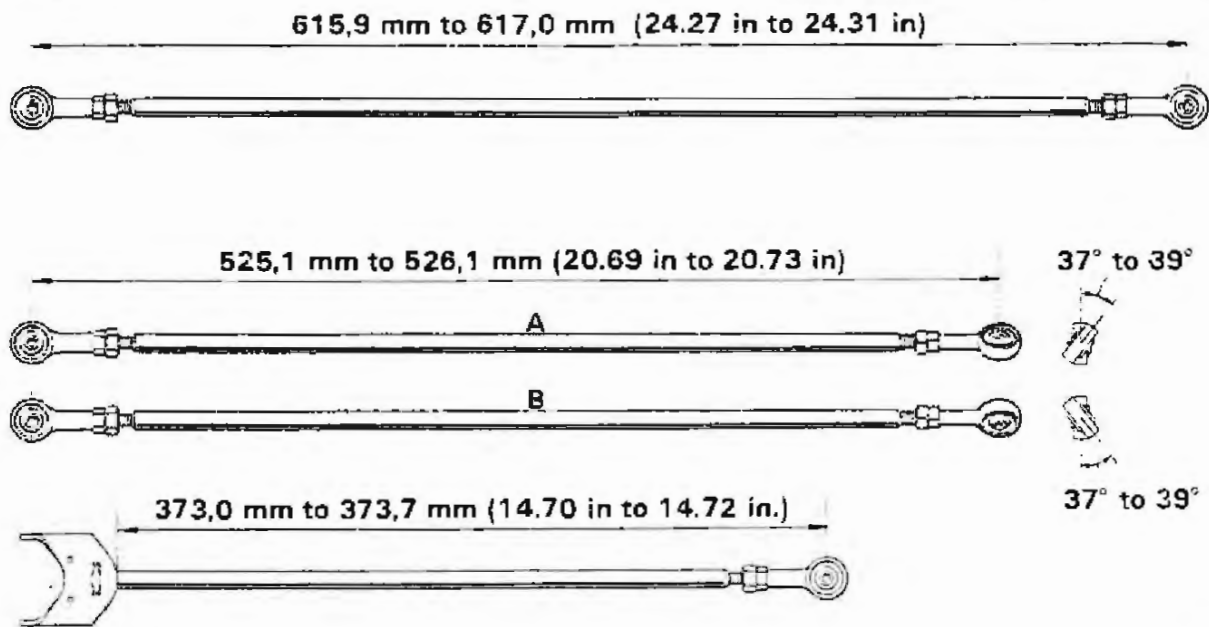

Fig. 2
- 3B Fit the tandem link (see fig. 2).
- 4B Fit the transfer output link (see fig. 2,A - Right-hand drive cars and B - Left-hand drive cars).